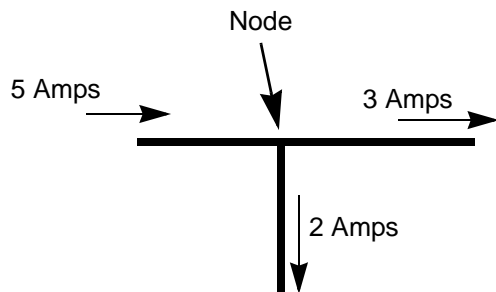

Figure 7.40
- The sum of the currents coming out of the other two wires must equal 5 amps. That could be 3 amps in one wire and 2 amps in the other or it could be 2.5 amps in each wire, but the total coming out must be the same as the current going in. See Figure 7.40.